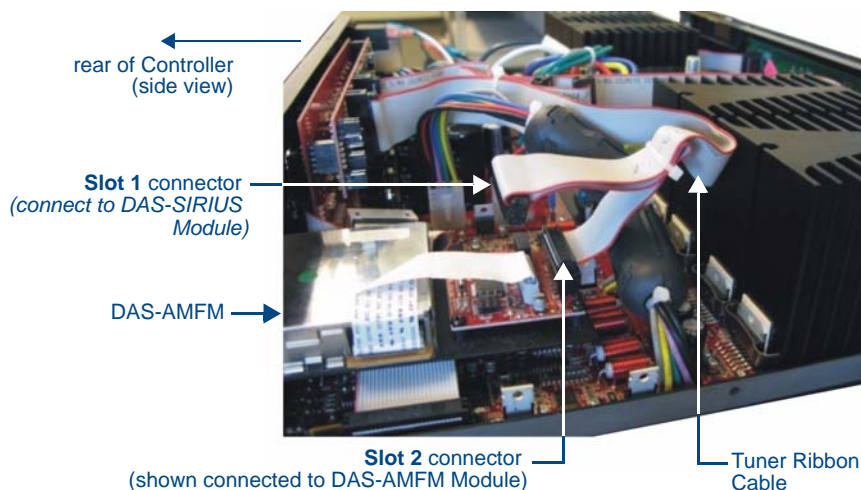

FIG. 74 Tuner 1 / 2 Module Connections (side view of Controller)
- Connect the **Slot 1** connector on the ribbon cable to the 20-pin Tuner Ribbon Cable connector on the DAS-SIRIUS Module (FIG. 74).